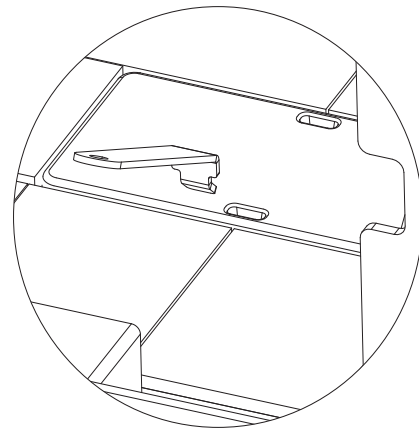

Figure 19.2
2. Remove cast iron cap from inside the firebox using tools supplied. Clean ash through the ash removal system channel into the drawer below (**Figure 19.2**). Make sure all ash is removed from the top of ARS door. Lift up the grate and inspect the top of the door to ensure all ash has been removed. You can rapidly move the ARS latch handle up and down to help remove any ash from the door. Use a small brush to clean off the top of the door if any ash remains.